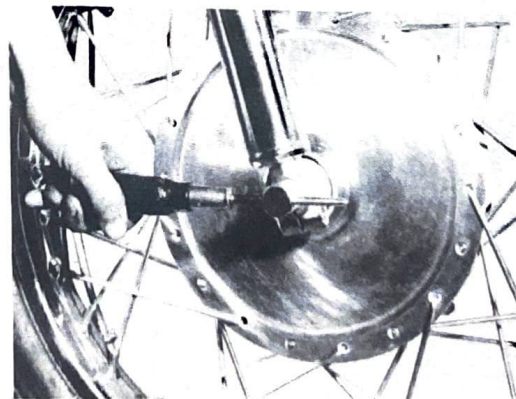

Fig. 5-1-9
- 5) Pull out the front wheel shaft. (Fig. 5-1-9)